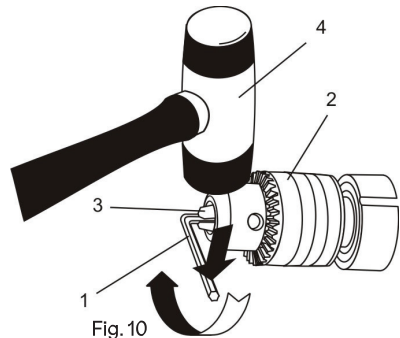
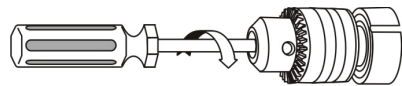

Fig. 10
Fig. 11
2. Insert a $\frac{5}{16}$ " (8 mm) or larger hex key (1) into the chuck (2) and tighten the chuck jaws securely (Fig. 10). Make sure each of the chuck jaws (3) is seated on the flat surfaces of the hex key.
3. Tap the hex key sharply with a mallet (4) in a clockwise direction. This action will loosen the screw in the chuck for easy removal.
6. Remove the chuck screw using a #2 (+) screwdriver (Fig. 11).